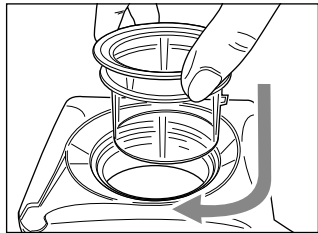

Fig. 4
- Close the upper hole of the lid (B) by inserting the opposite cap (A) and rotating it clockwise (Fig. 4). Make sure the lid (B) and the cap (A) are properly inserted to prevent food from coming out during the processing stages.
- Plug power cord into a socket. The function panel (F) and the function selecting dial (G) will light. The ON-OFF button (L) will become red indicating that the appliance is ready.
- Press the ON-OFF button (L) and select one of the functions that can be seen on the function panel (F) by rotating the opposite dial (G). The function icon will flash.
- Once having selected the required function, press the ON-OFF button (L) that will become green and the appliance will run automatically: